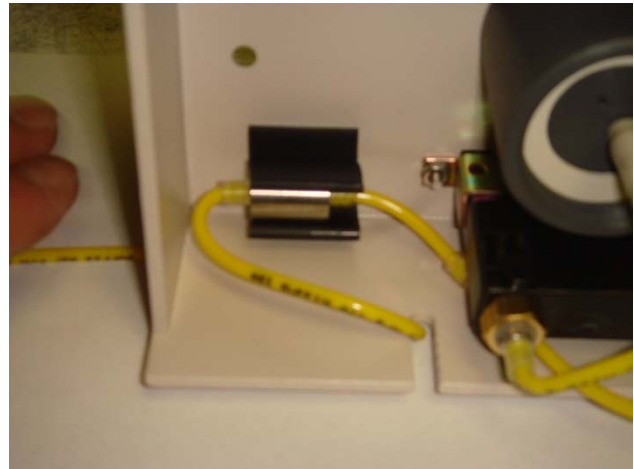

Fig. 2
4. Locate the regulator from the underside of the irrigation bracket held in place by a plastic clip. (Fig. 2)